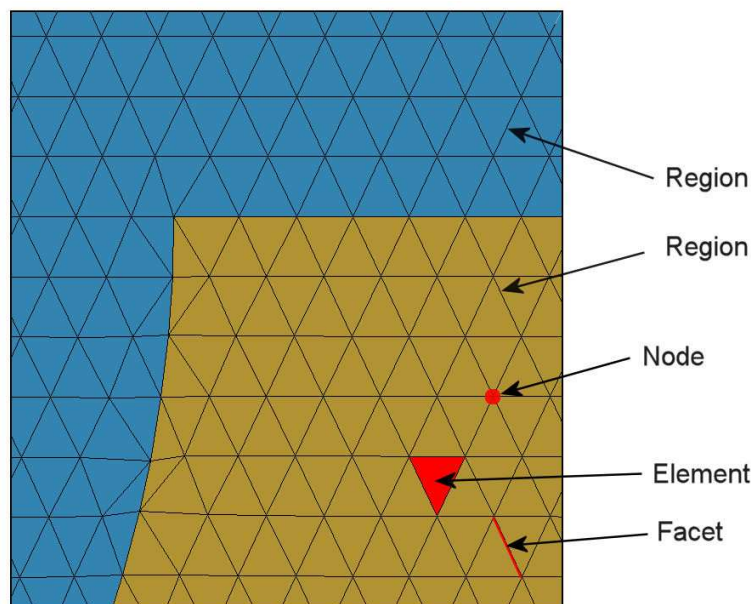

Figure 1: Conformal triangular mesh – definition of terms.
The basis of the finite-element approach is to divide the full solution volume into a number of small volumes, or *elements*. Here, the term *small* indicates that element dimensions are much less than the scale length for variations of field quantities. The division of the volume is called the *computational mesh*. Figure 1 shows the type of mesh used for the two dimensional solutions of **Nelson**. The figure defines three terms that will be used throughout this manual:
The elements in Fig. 1 have triangular cross-sections. In a planar solution, the cross-section lies in the  $x$ - $y$  plane and the elements extend an infinite distance in the  $z$  direction. In a cylindrical solution, an element is a figure of revolution about the axis with a triangular cross-section in the  $z$ - $r$  plane.
The mesh in Fig. 1 has the important property of *conformality*. The term means that the triangles have been specially shaped to conform to the boundaries between materials (*regions*). As a result, each element has an unambiguous material identity. The finite-element method is based on two approximations: 1) material properties in an element are uniform and 2) elements are small enough so that the field quantities can be approximated by simple interpolation functions. With these assumptions, the governing differential equation can be integrated over elements surrounding a node to yield a linear equation. This equation relates the field quantity at the node to those at the surrounding nodes. The coupled set has one linear equation for each node in the mesh. In **Nelson**, solution of the set representing the complex-value Poisson equation gives the quasi-electrostatic potential at each node. We can then perform two-dimensional interpolations to find harmonic potential at intervening points, or take numerical spatial derivatives to find the components of the electric field.
2. **Mesh** analyzes the boundary specifications and automatically generates a set of conformal triangles such as those of Fig. 1. The program creates an output file that lists the locations of nodes and the identities of elements.